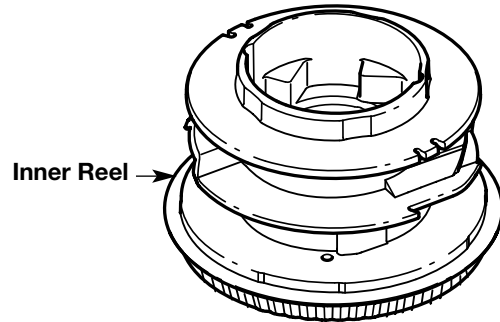

Fig. 22
4. Remove any existing line from the inner reel before cleaning. Remove any debris or grass from the knob, spring, inner reel, and foam seal. Wash the inner reel with warm soapy water (Fig. 22).